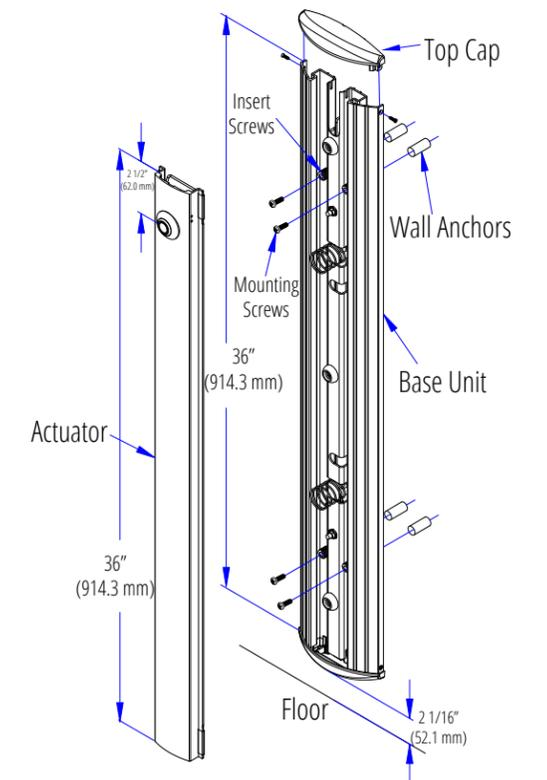

Figure 4.2 Mounting of Base Unit
2. Carefully pull out the actuator and place it aside so as to protect it from any surface damage. The bottom of the Switch should be located between 3" to 8" (76mm to 203mm) off the finished floor as per site conditions or code requirements. See Figure 4.2 for mounting illustration.
(See Figure 4.2 and 4.3 for reference.)